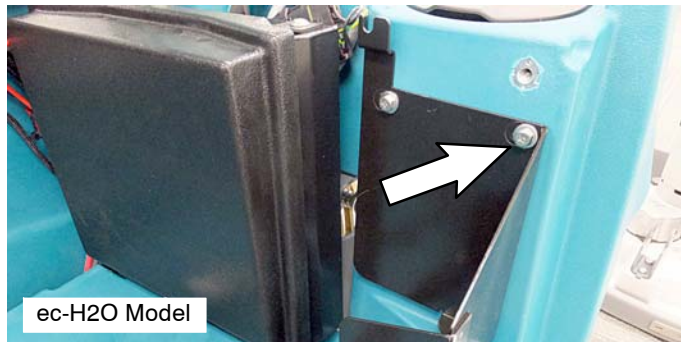

FIG. 21
23. If model is equipped with ec-H2O remove the following screw from module bracket (FIG. 21)